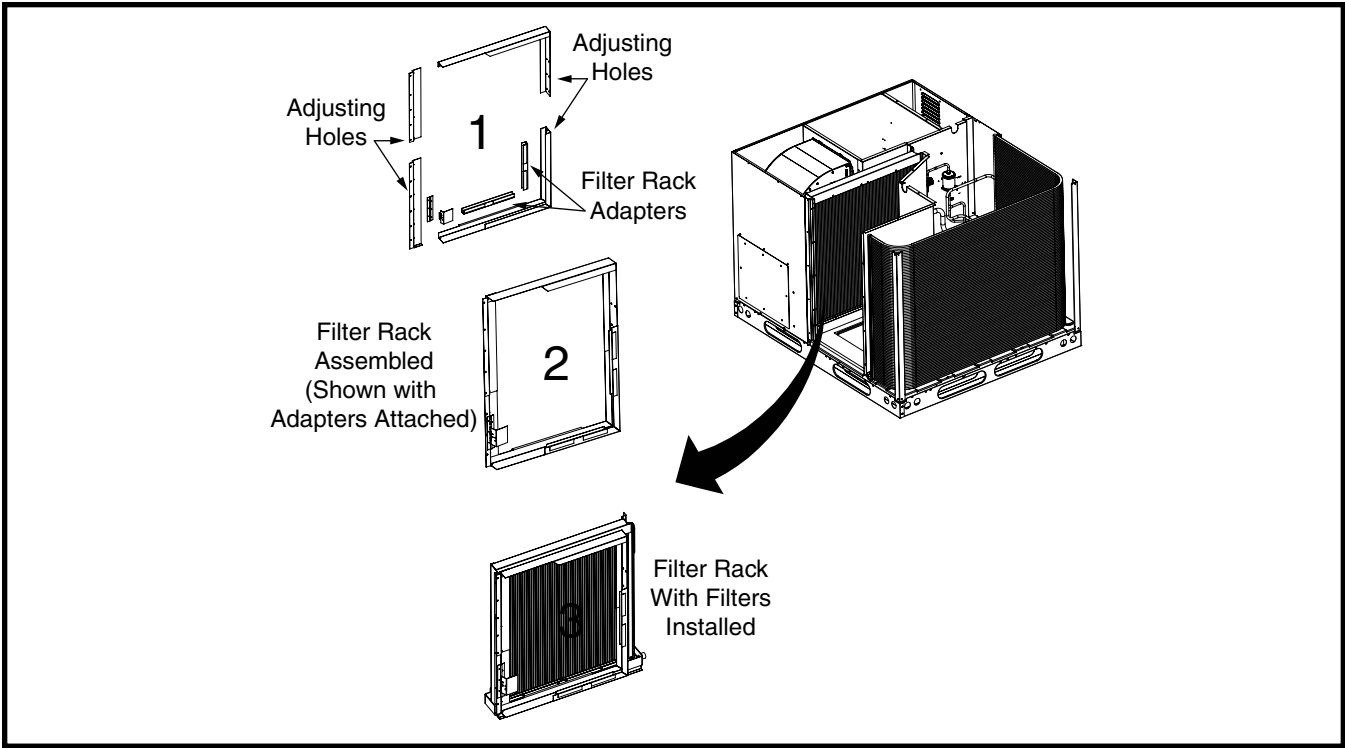
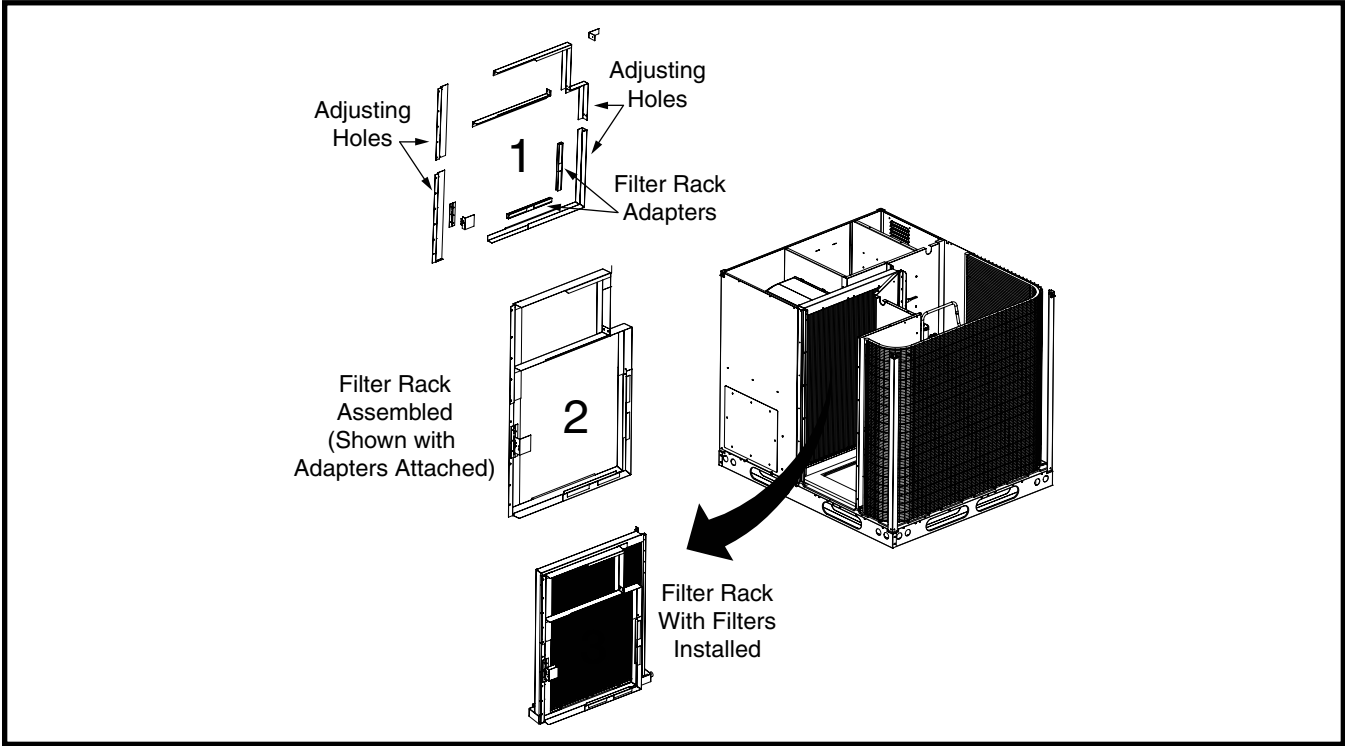

Figure 2. Internal Filter Rack Assembly for 20" Fan Orifice
Figure 3. Internal Filter Rack Assembly for 24" Fan Orifice
3. Assemble the filter rack as shown in Figure 2 or Figure 3 (page 4). **NOTE:** Both filter rack styles are designed with adjusting holes 4" apart. The 30", 34", & 38" filter rack (for units with 20" fan orifice) is adjustable and all use the same internal parts. The 38" & 42" filter rack (for units with 24" fan orifice) is also adjustable and both use the same internal parts. If using 1" filters, insert the Adapter, 1", Filter. If using 2" filters, this part is not needed. For replacement filters, use Table 2.